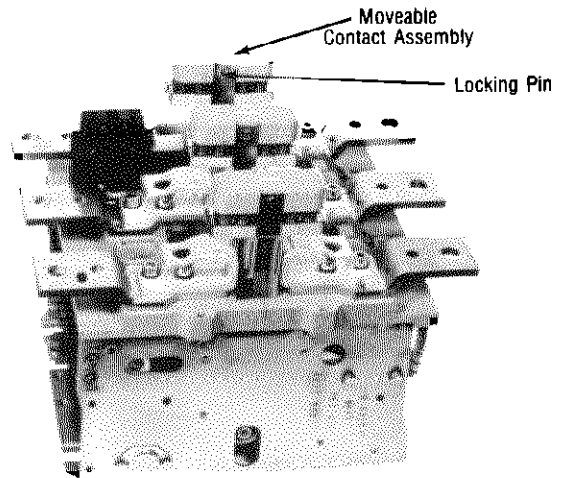

Fig. 3 - MAIN CONTACT RENEWAL
3. Press down on the movable contact assembly until the locking pins become loose. Then remove locking pins by sliding them to the right or left. See Fig. 3.